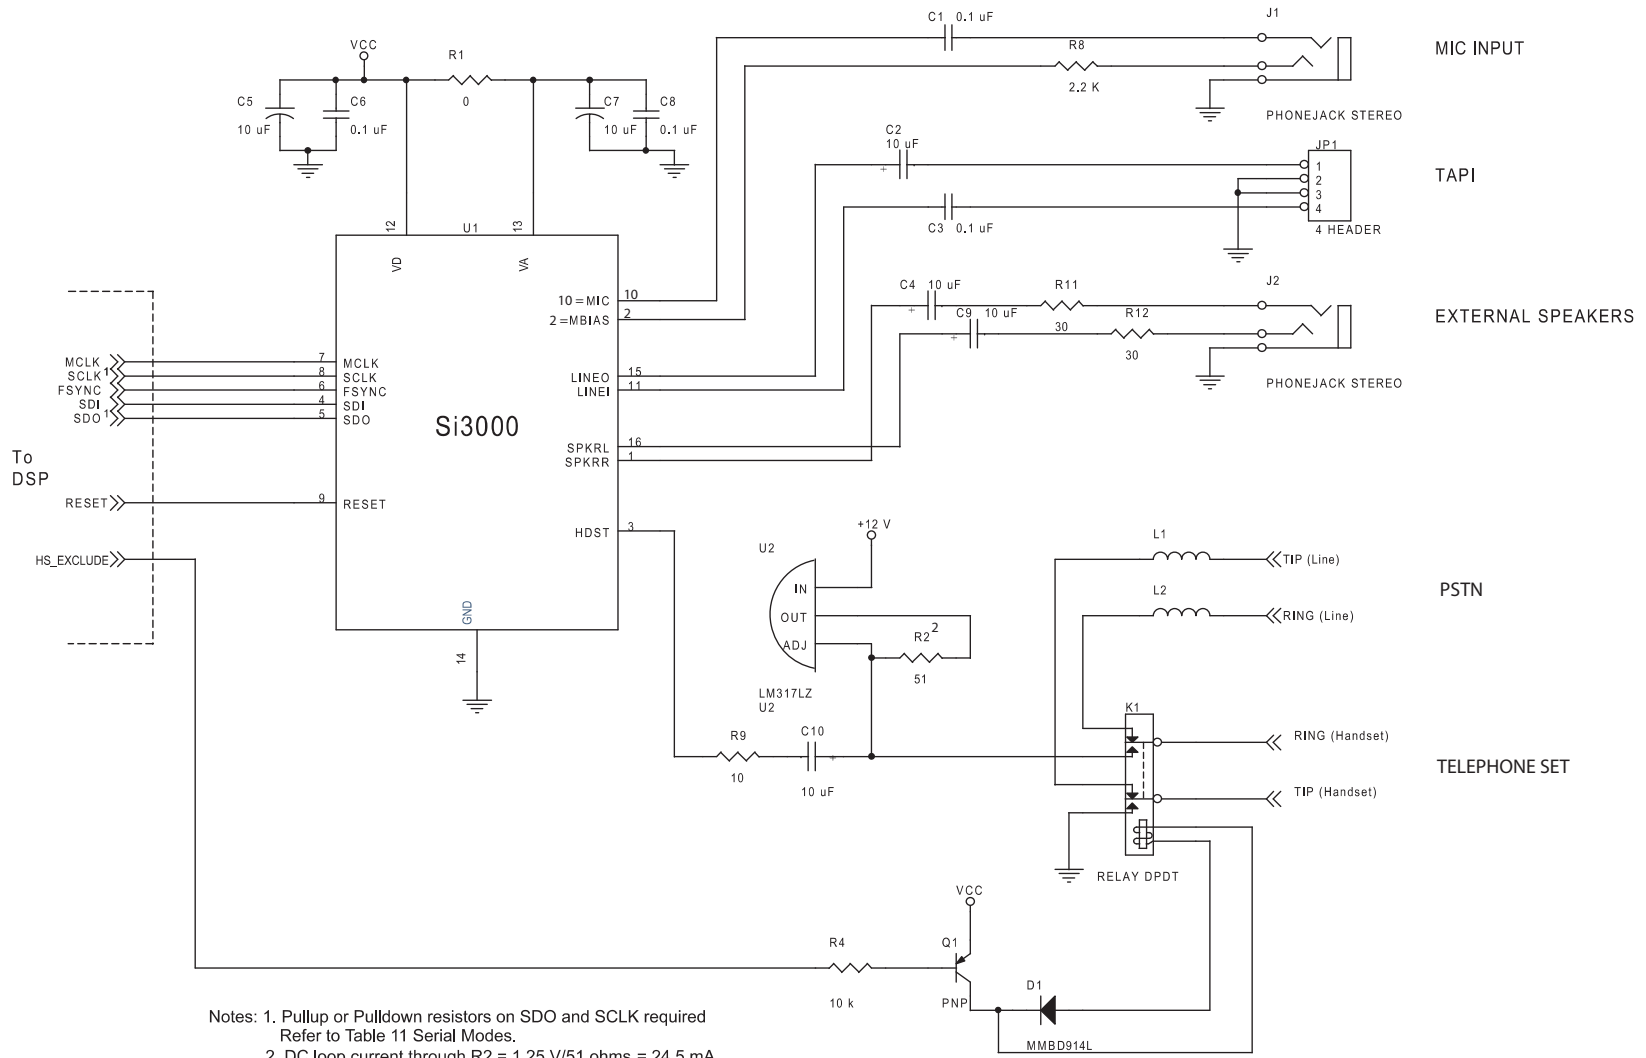

Figure 13. Si3000 Typical Application Circuit
5. These characteristics are determined by external components. See Figure 13.
The Si3000 can be connected directly to the Si3035, Si3034, Si3044, or Si3056 in modem applications requiring a voice channel, or the device can be used as a stand-alone codec in other voice band applications. The Si3000 offers high integration, and it needs only a few low-cost, discrete components as shown in Figure 13.
The typical connection diagram (Figure 13) shows the recommended external analog circuitry for the Si3000. The device supports three mono analog inputs—line level, microphone level, and a handset input. Each of these inputs is provided to a mixer circuit prior to A/D conversion. Each analog input may also be muted by writing the appropriate bits in the control registers. Unused analog inputs should be tied to GND through a 0.1 μ F capacitor. This prevents any DC current flow.
LINEO is a line level analog output signal centered around a common mode voltage. The minimum recommended load impedance is 600 Ω . This output is a fully filtered output with a 1 V_{rms} full scale range. The only external component required is the 10 μ F DC blocking capacitor shown in Figure 13 on page 12. This output may be muted through the LOM bit in register 6 or attenuated by setting the analog attenuation bits in register 9.
The SPKRL and SPKRR are mono, in-phase, analog outputs capable of driving a small loudspeaker whose impedance is typically 32 Ω (see Figure 13 on page 12). The speaker outputs may be muted through the SLM and SRM bits in the DAC Gain Control register 7 or attenuated by setting the analog attenuation bits in register 9.
The Si3000 has two serial interface modes that support most standard modem DSPs. These modes are selected by the addition of a 50 k Ω pull-down/up resistor on the SDO and SCLK pins as shown in Figure 13 on page 12. The key difference between these two serial modes is the operation of the $\overline{\text{FSYNC}}$ signal. Table 11 summarizes the serial mode definitions.